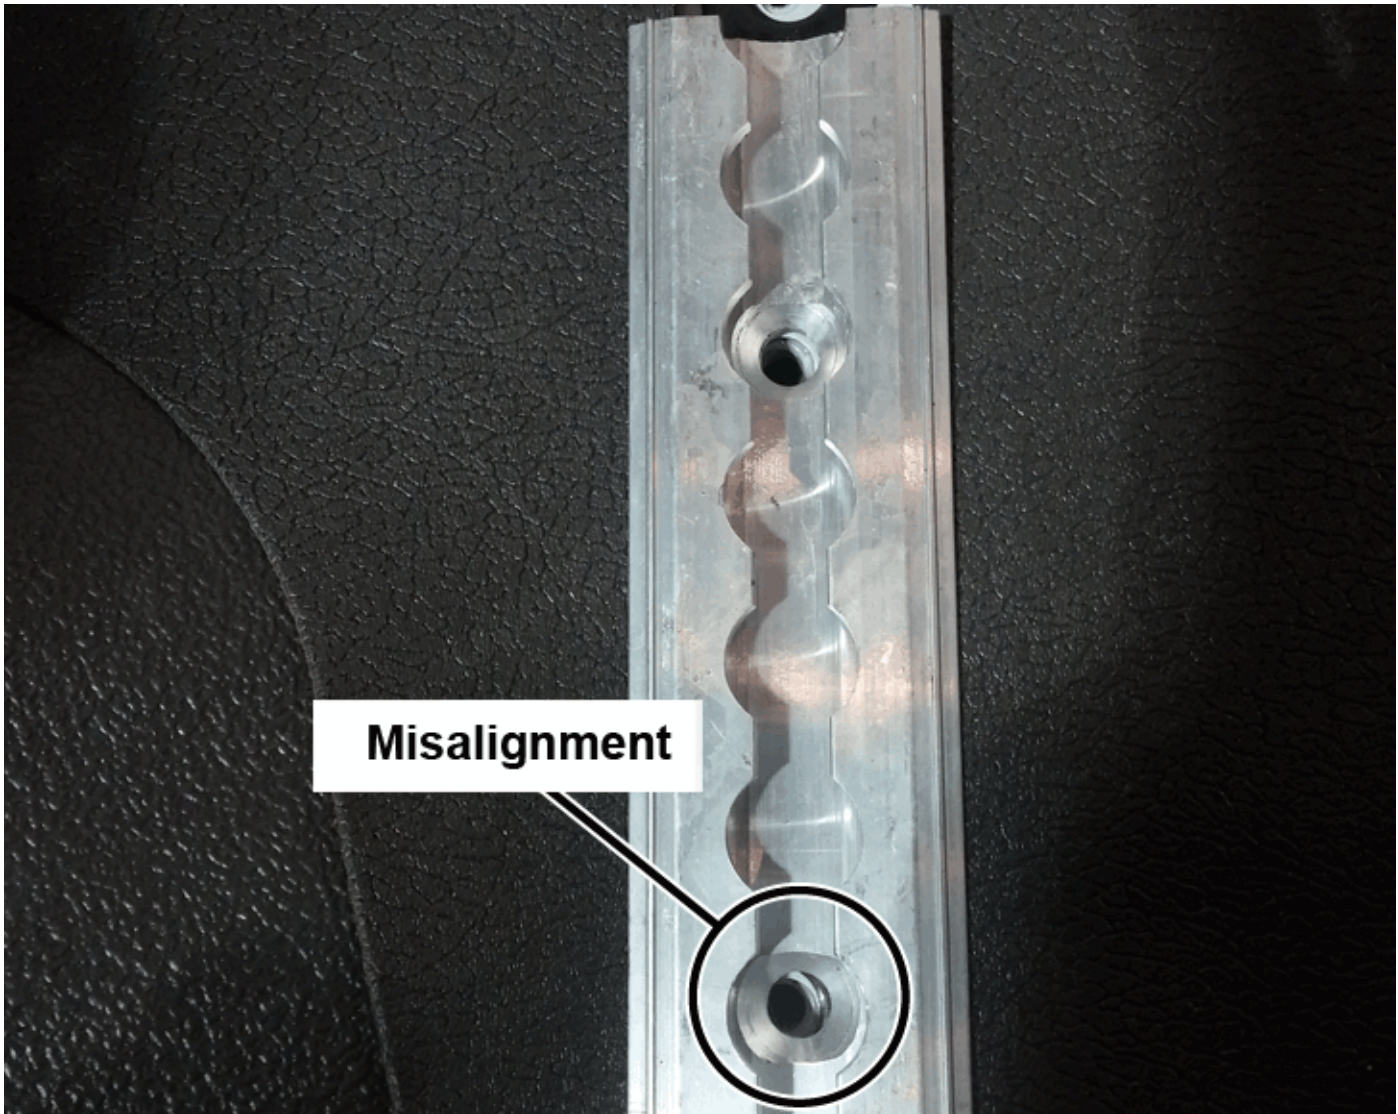

Figure 6: Screw Hole Alignment
9. Verify the rear floor restraint opening is not out of position by placing the restraint in the opening and checking the screw hole alignment (See Figure 6).